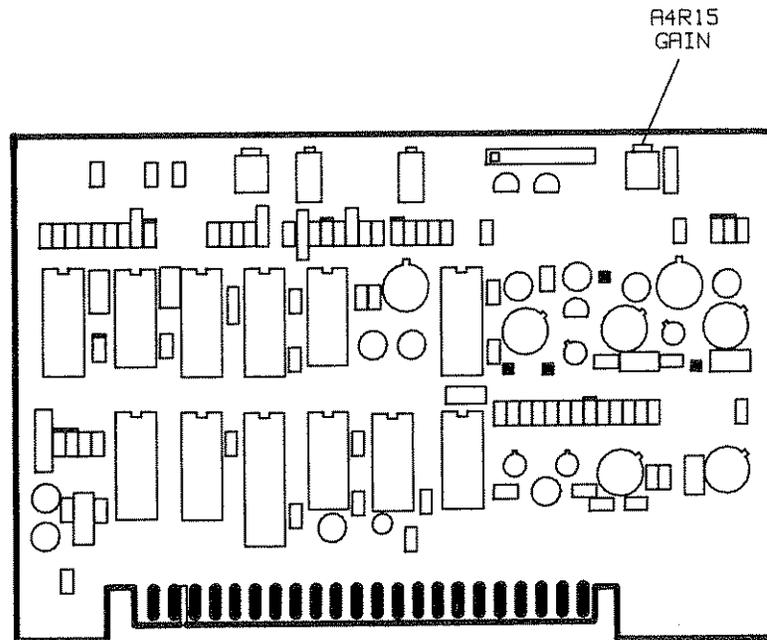

Figure 5-26. ALC Gain Adjustment Location
6. Adjust A4R15 (GAIN) for a minimum variation from 4 divisions reference. The variations must be between 5.66 divisions (+3 dB) and 2.83 divisions (-3 dB) with no oscillations which appear as discontinuities in the trace. Refer to Figure 5-26.